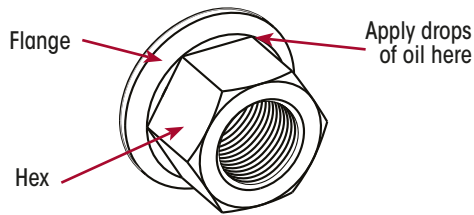

Figure 118: Two-Piece Flange Nut
IMPORTANT: If reusing two-piece flange nuts, apply two drops of SAE 30W motor oil at the point between the flange and hex of the nut. Refer to Figure 118.
- B. Apply two drops at the point between the flange and hex of the nut. Refer to Figure 118.